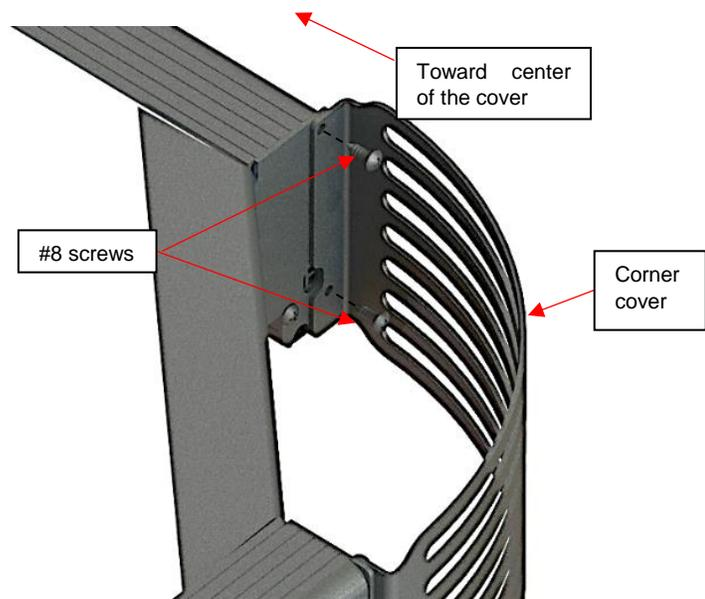

Figure 77
36) Orient the corner cover piece and screw it in completely with the last two screws on the side toward the center of the cover. Use the Robertson sheet metal #8 x 1/2" screws. (Figure 77)